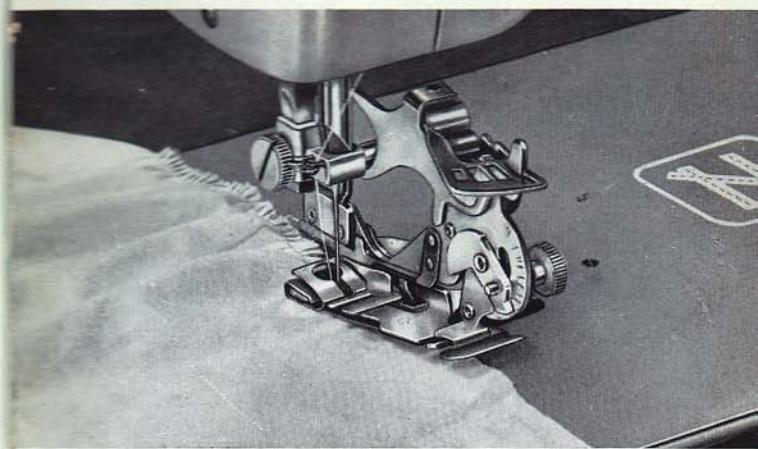

Fig. 53
- 4) Draw material slightly away from needle, lower presser bar and sew. Fig. 53 shows the ruffle being made by the ruffler.